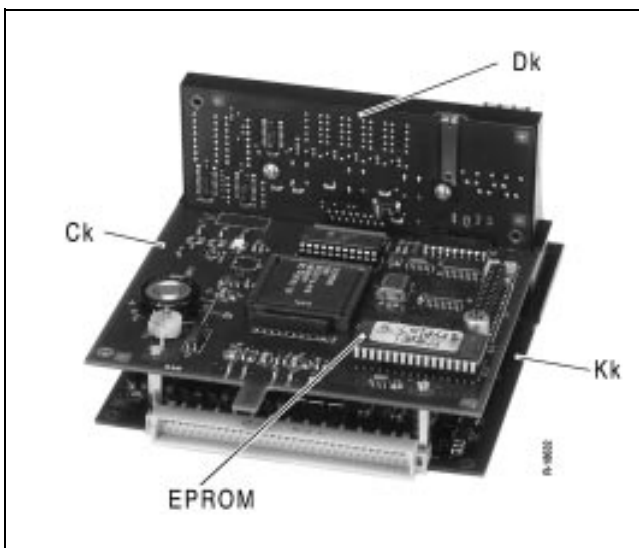

Fig. 15 Dismantled electronics unit (rear view)
4. Remove the electronics unit from the case (see fig. 15).